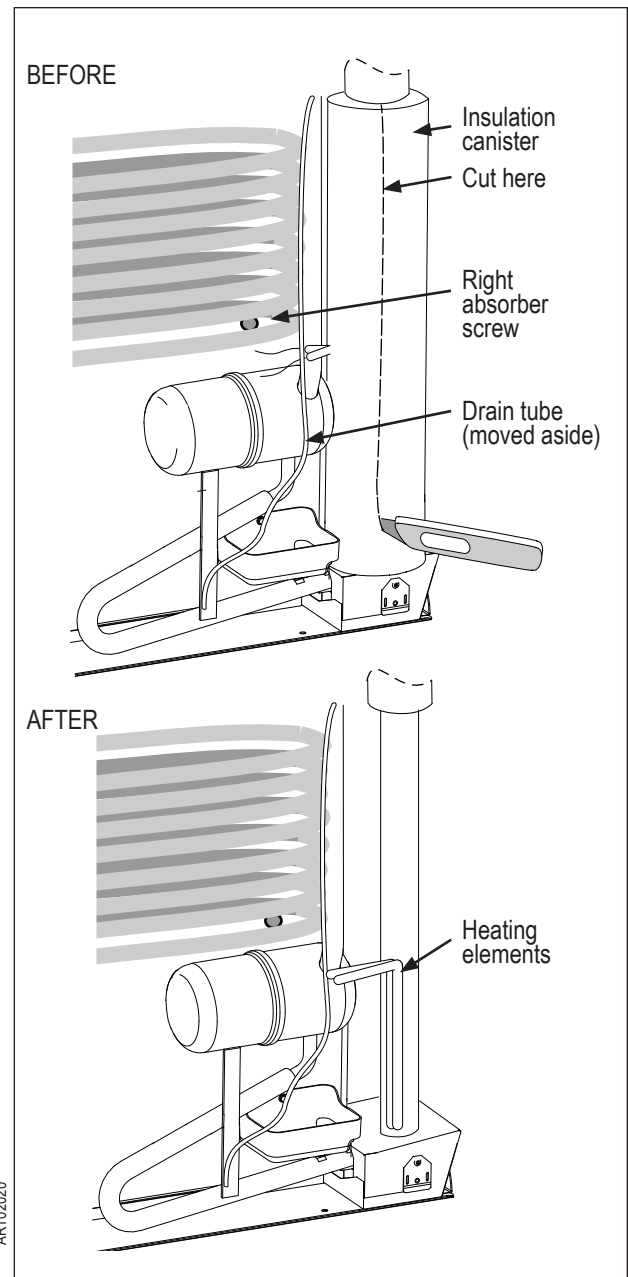

Figure 3. Removing Insulation Canister
6. Remove both screws (left and right) from the absorber bracket to allow it to shift slightly and ease installation of the new canister. Refer to Figure 3.
2. Use a box knife to cut open the old insulation canister that covers the heaters. Refer to figure 3.